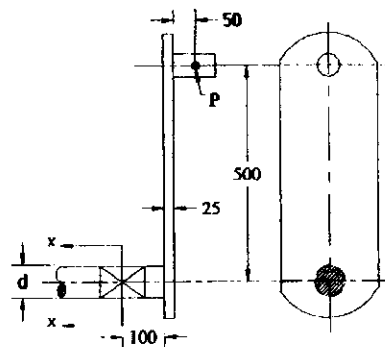

Fig.Q2(b)
- b. An overhang crank with pin and shaft is as shown in Fig.Q2(b). A tangential load of 15 kN acts on the crank Pin. Determine the diameter at section 'XX' using maximum shear stress theory. The crank is made of C60 carbon steel. Take factor of safety as 2. All dimensions are in mm. (05 Marks)